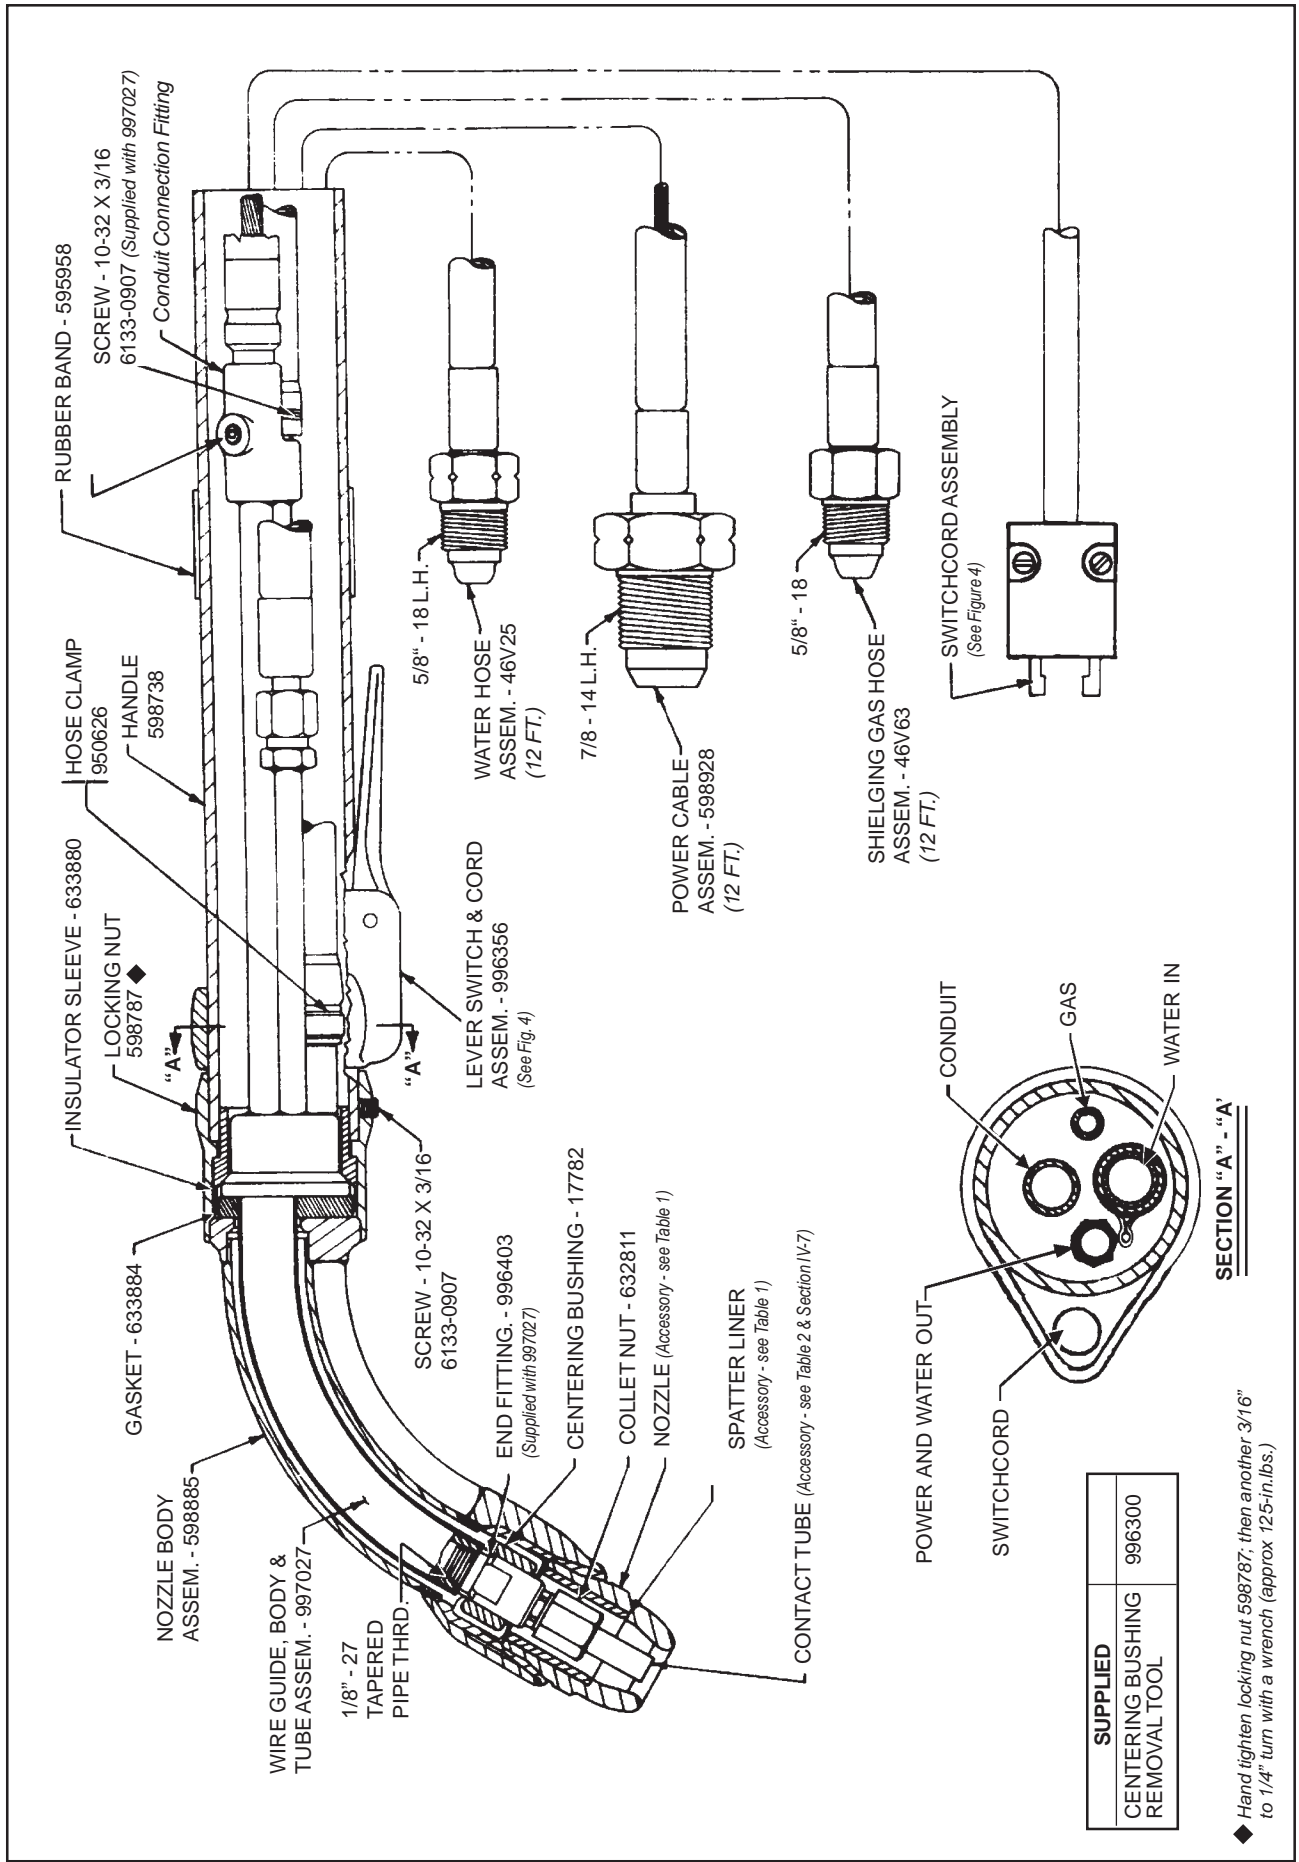

Fig. 3 - ST-16 Torch, P/N 997498
2. Referring to Figure 3, loosen the two No. 10-32 screws on locking nut (598787), slide handle back, and then lock the conduit in place by tightening the No. 10-32 setscrew on the conduit connection fitting. Reassemble handle to locking nut and tighten setscrews.
B. GAS AND WATER HOSE ASSEMBLIES (Refer to Fig. 3)
6. Rotate the hose clamp so the ear is positioned close to the power connection tube as shown in Section "A-A" of Figure 3.
3. If removed, place rubber band, that was hanging loosely over the service line back over the rear of the torch handle as illustrated in Fig. 3 to hold the